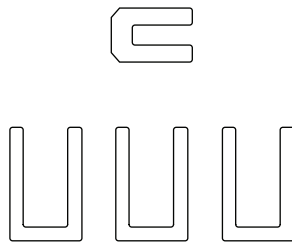

Figure C-1 Conext XW Jumpers
- one small jumper and three large jumpers, included with the Conext XW+ Inverter/Charger (See Figure C-1.)